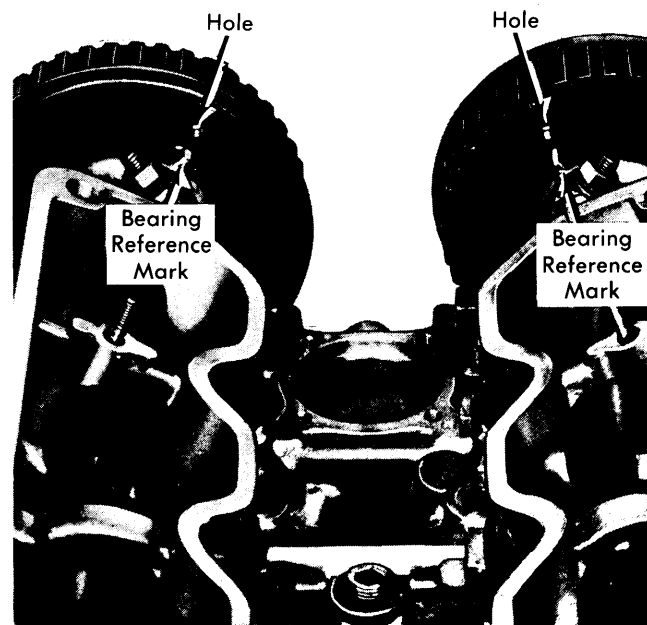

Fig. 1 Camshaft Bearing and Gear Timing Marks
3) Using a spanner wrench (88011321) on crankshaft nut, turn crankshaft in direction of rotation until the camshaft bearing timing marks (See Fig. 1) line up with holes in camshaft drive gears. Remove the timing reference pointers fitted bracket. Disconnect coolant outlet pipe from both the cylinder head and rubber hoses.